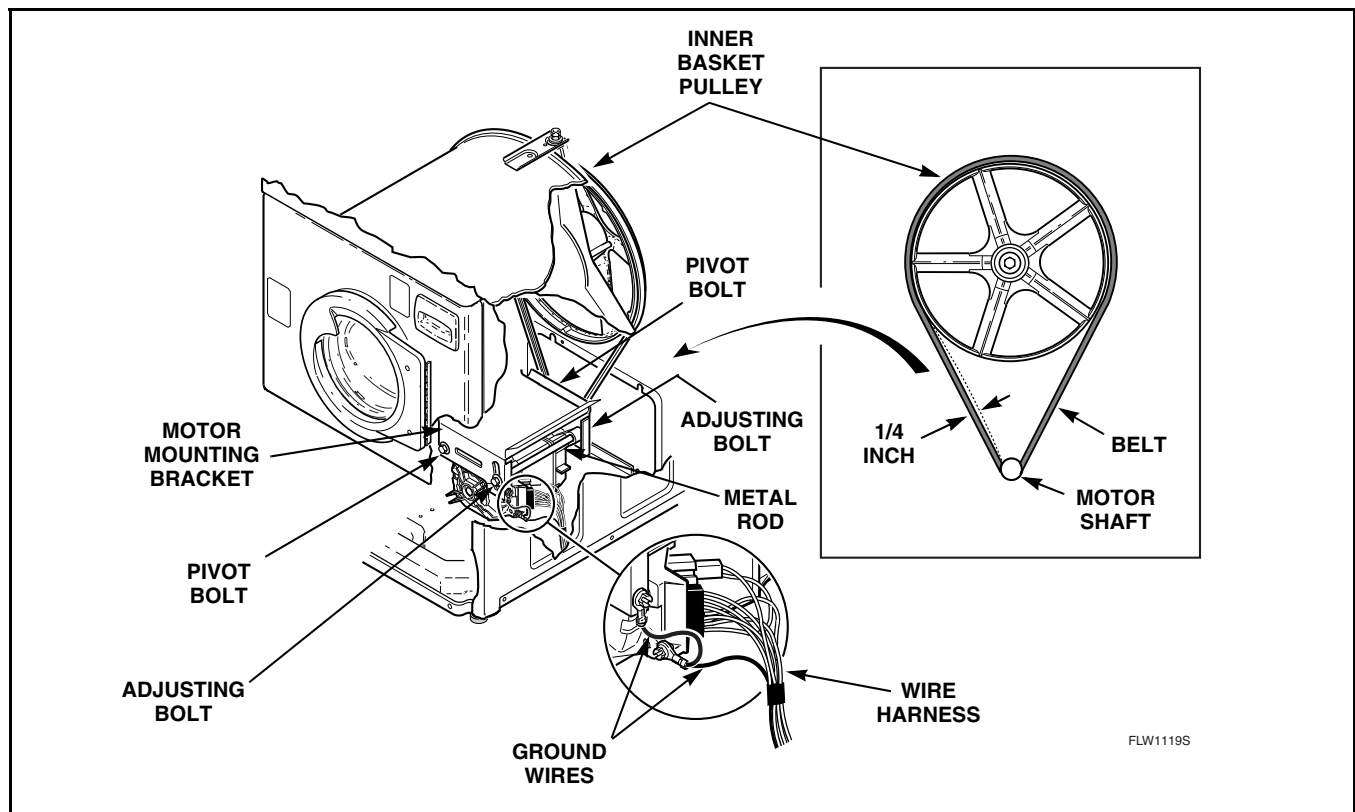

Figure 62
- (13) If area or space permits, lift cabinet top to a vertical position by hinging it on the rear hinges.
- c. Run belt off cylinder pulley while slowly turning pulley. Refer to *Figure 62*.
- e. Working through the front access door opening, place a locking pliers on the metal rod and loosen the two adjusting bolts. Repeat procedure to loosen the two pivot bolts. Refer to *Figure 62*.
- f. Pull down on motor to increase belt tension. Use a Burroughs belt gauge to obtain proper tension. Proper belt tension is obtained when belt can be deflected approximately 1/4 inch (6.35 mm) from normal position when moderate pressure 50 to 60 pounds (22.68 to 27.22 Kg) is applied to a point midway between pulleys. Refer to *Figure 62*.
- g. After proper belt tension has been obtained, tighten belt adjusting bolts firmly, then tighten pivot bolts. Refer to *Figure 62*.